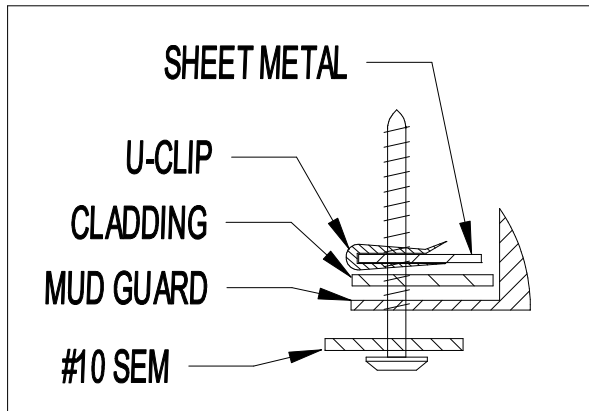

Figure 2
2. Install u-clips at locations A and B. (Figure 2)